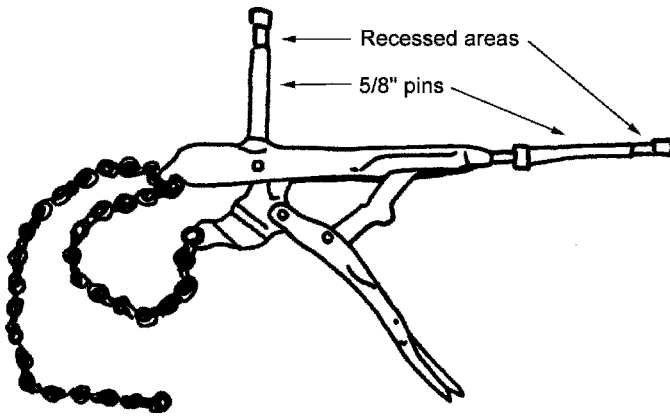

Figure 2.14 Chain vise grip.
- a. The back of the chain vise grip has a 5/8-in. pin welded onto it (Figure 2.14).